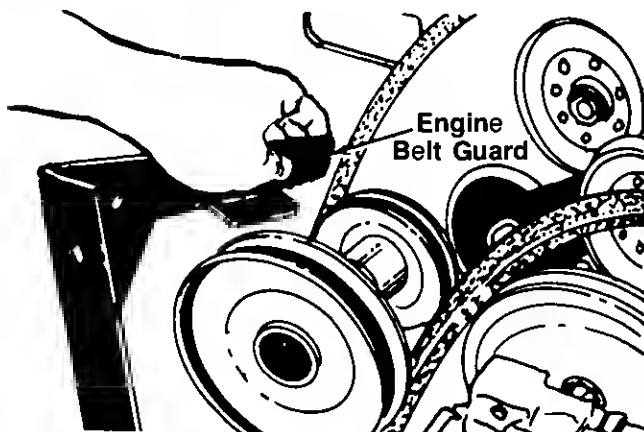

FIGURE 31.
9. Remove two hex bolts, nuts and lock washers from the engine pulley belt guard at rider frame to allow the engine pulley belt guard to drop down out of the way. See figure 31.